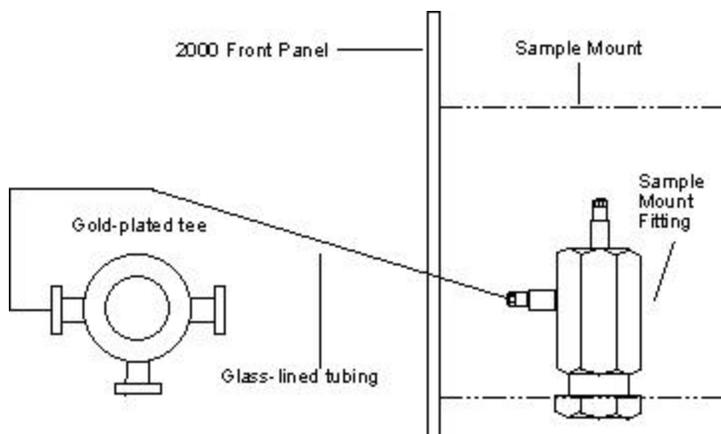

Figure 4-7: Glass-lined Tubing Connection (with gold-plated tee)
- Use the ferrule and nut to connect the tubing to the sample mount fitting (Figure 4-7).